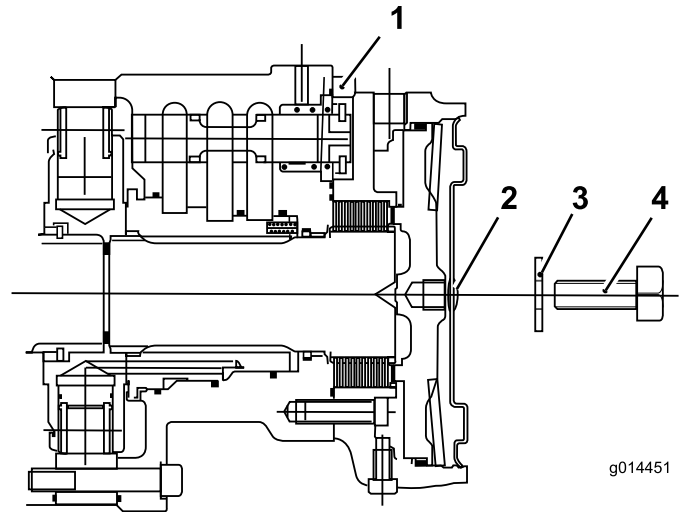

Figure 38
- C. Assemble the hex plug into the motor end plate (Figure 38).